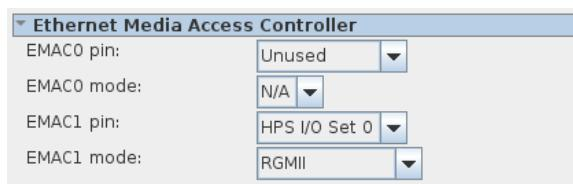

Figure 9-8. Ethernet MAC configuration
- a. Configure “EMAC1 pin” to “HPS I/O Set 0” and the “EMAC 1 mode” to “RGMII”, as shown in Figure 9-8.